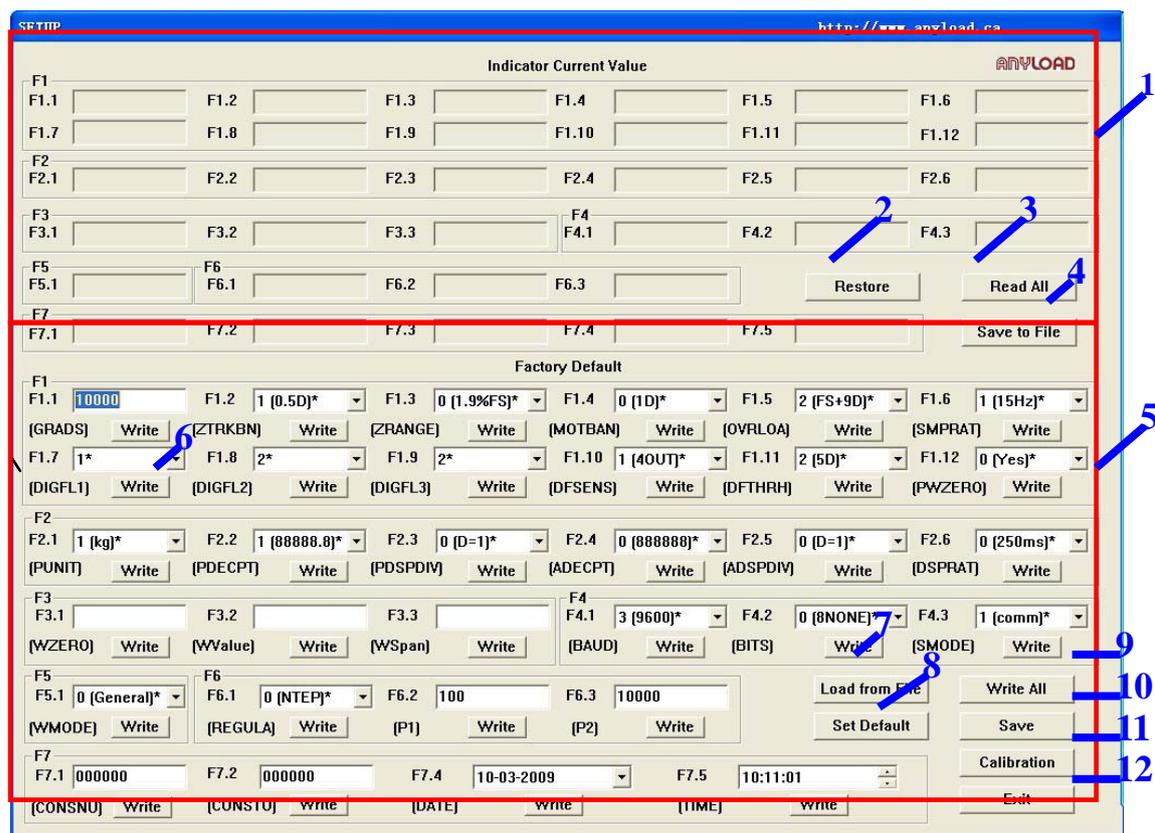

Figure 1-3 805TS Setup Interface
805TS Setup Interface(see figure 1-3).
1.2.3 805TS Setup Interface(see figure 1-3)